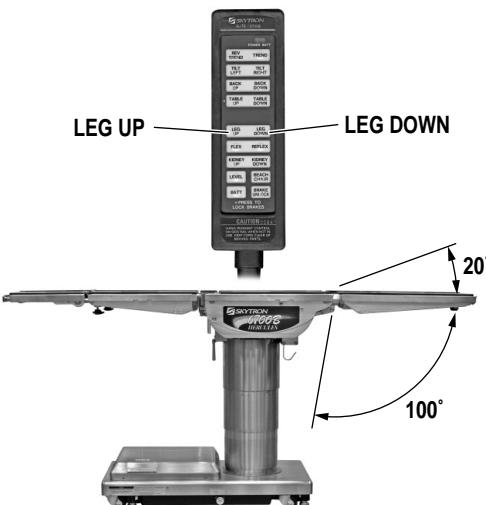

Figure 2-10. Leg Section Positioning
**f. Leg Section.** To lower the leg section, press the LEG DOWN button (figure 2-10). The leg section will go down to 100° below horizontal. To raise the leg section, press the LEG UP button. The leg section will go up to 20° above horizontal.